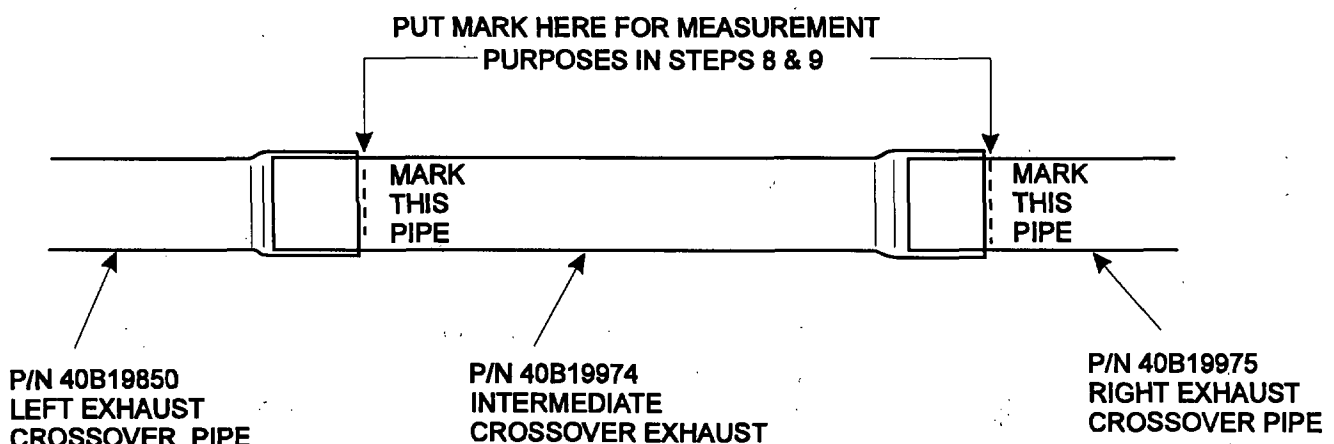

Figure 2. Marking Exhaust Pipes to Measure Engagement
2. Mark the exhaust pipe as shown in Figure 2. This will be used to measure the slip joint engagement in steps 8 and 9.